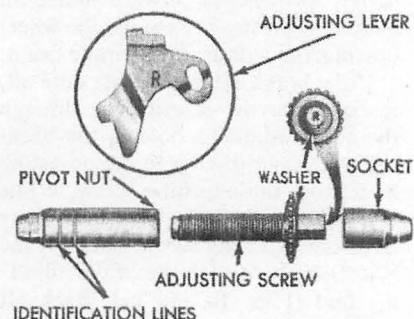

FIG. 14—Adjusting Screw and Lever Identification
(Fig. 14). The adjusting pivot nuts can be distinguished by the number of lines machined around the body of the nut. Two lines indicate a right nut; one line indicates a left nut.
10. Hook the cable hook into the hole in the adjusting lever from the backing plate side. The adjusting levers are stamped with an R or L to indicate their installation on a right or left brake assembly (Fig. 14).